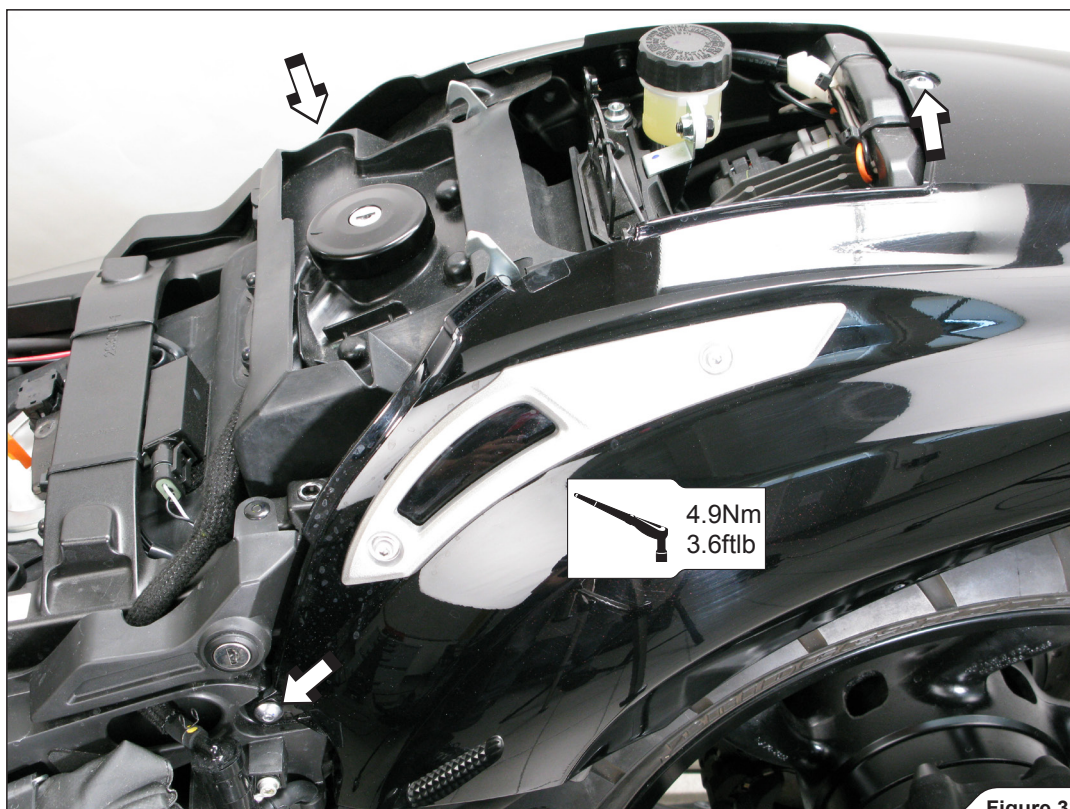

Figure 38
13. **For OPEN SLIP-ON only:** attach the seat cowl, seat panels, seats in the reverse order from the order in which they were removed (**Figure 38, 39, 40, 41**).